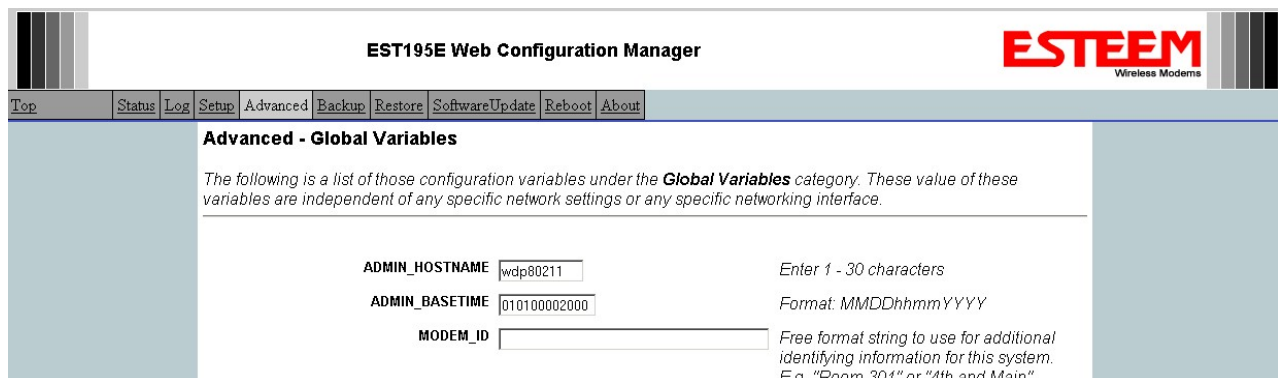

Figure 4: Modem ID Field in Global Variables Screen
2. Scroll to the bottom of the Global Variables window and enter the text you would like displayed in the Modem ID field (Figure 4). When complete, press the *Save Settings* button and the *Commit Changes* button on the next screen to save the name to the 195E.